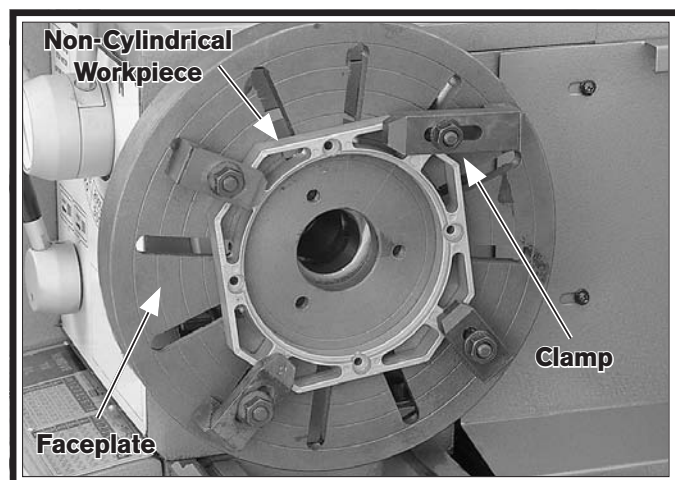

Figure 39. Example photo of workpiece clamped in a faceplate.
3. With help from another person or a holding device to support the workpiece, position it onto the faceplate and clamp it in place with a minimum of three independent clamping devices (see **Figure 39** for an example).